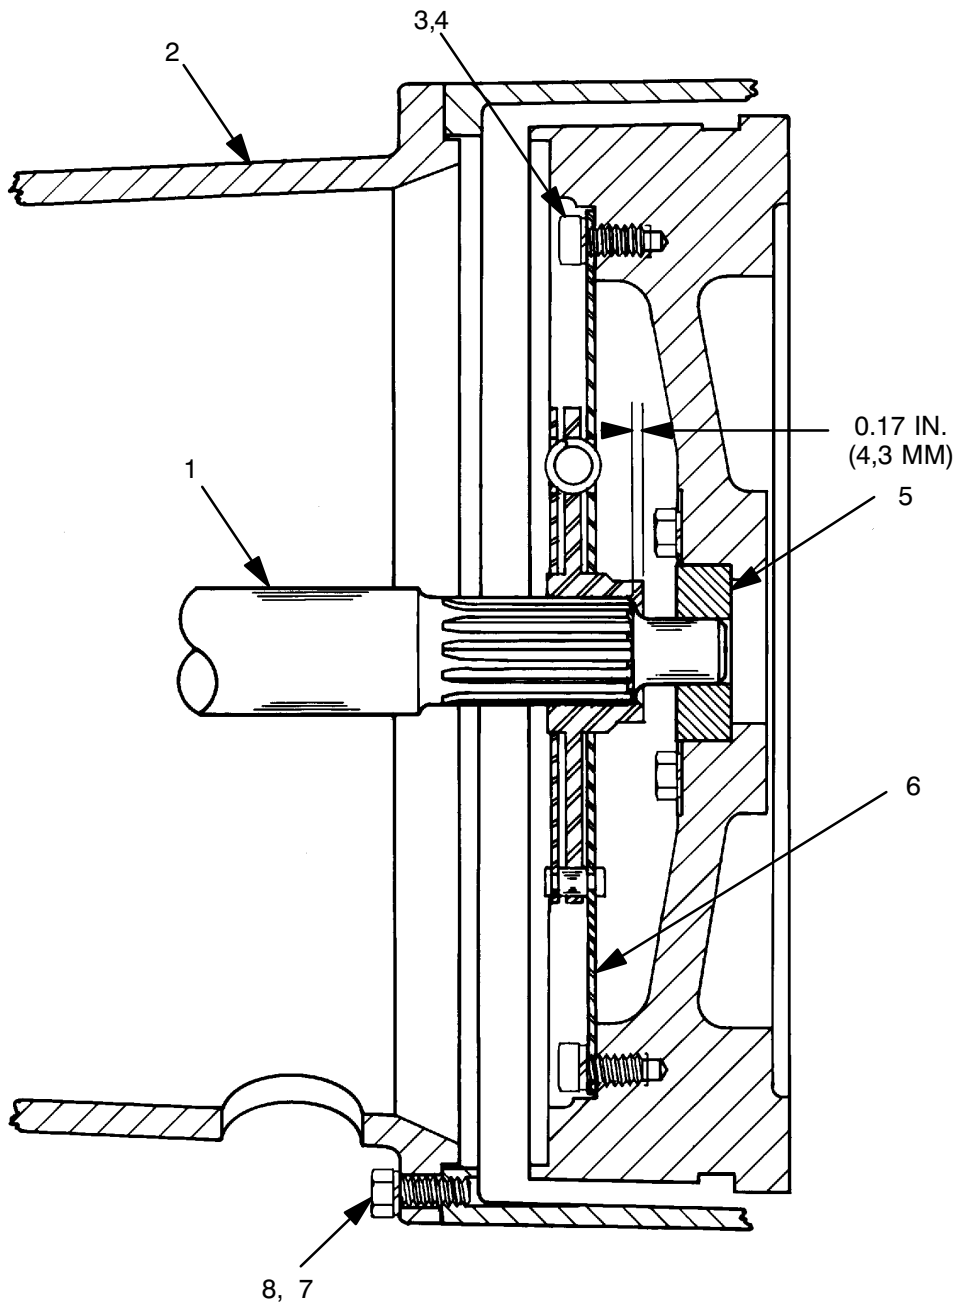

Figure 3. Drive Assembly For 64B2-(F5L)
Support the pump casing and intermediate using a suitable hoist and sling and remove the hardware (7 and 8, Figure 3) securing the intermediate to the engine bellhousing. Separate the assemblies by pulling the intermediate straight away from the engine. As the assemblies separate, the impeller shaft (13) will disengage from the drive plate assembly (6, Figure 3).
(Figure 3)